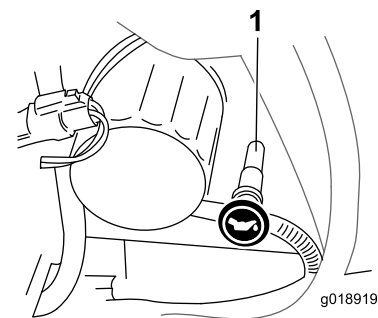

Figure 8
4. Clean around the oil dipstick (Figure 8).
5. Pull out the dipstick and wipe the metal end clean (Figure 8).
6. Slide the dipstick fully into the dipstick tube (Figure 8).